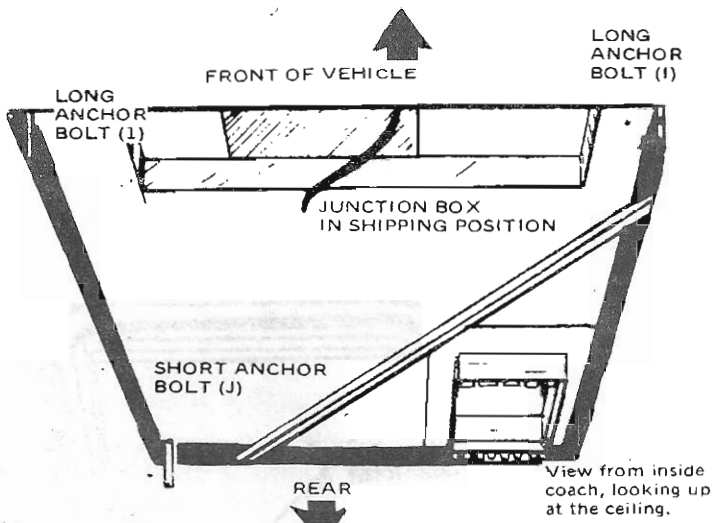

FIGURE 6
6. Install the three straight anchor bolts (I) and (J) as shown. The two long bolts (I) are installed to the front of unit and the short one (J) to the rear. See Figure 6.